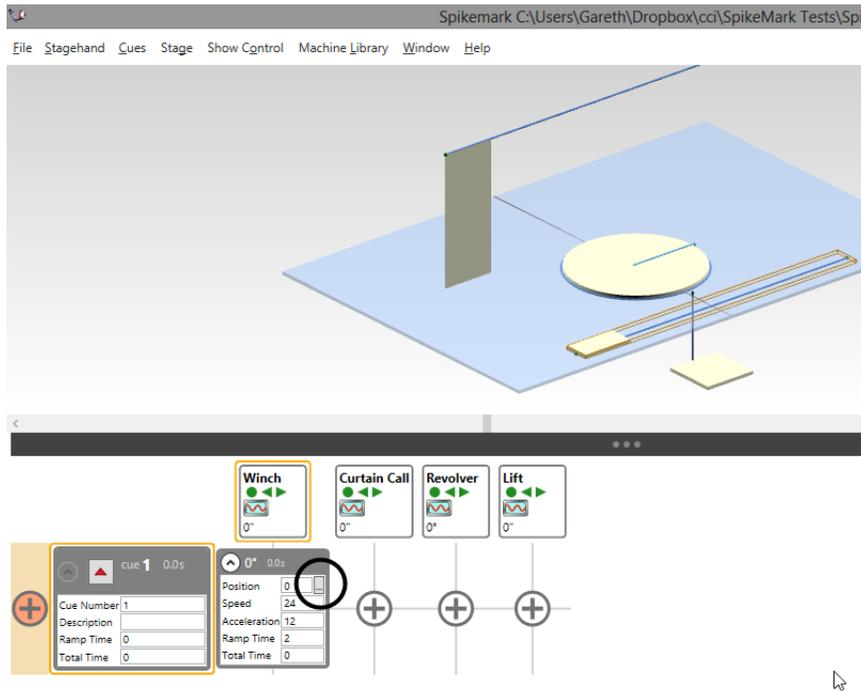

Figure 296
4. Click on the **Spike Position** button in the motor's movement window (Figure 296).